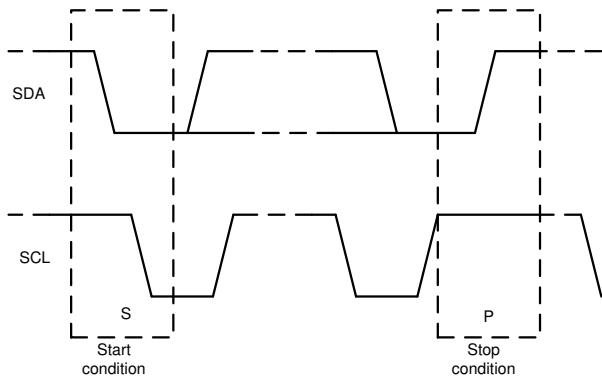

**图 7-18. Acknowledge and Not Acknowledge on the I2C Bus**
Other than specific timing signals, the I2C interface works with serial bytes. At the end of each byte, a ninth clock cycle generates and detects an acknowledge signal. An acknowledge is when the SDA line is pulled low during the high period of the ninth clock cycle. 图 7-18 depicts a not-acknowledge, when the SDA line is left high during the high period of the ninth clock cycle.
2. The controller then generates the SCL pulses, and transmits the 7-bit address and the read/write direction bit (R/W) on the SDA line. During all transmissions, the controller makes sure that data are valid. 图 7-20 shows that a valid data condition requires the SDA line to be stable during the entire high period of the clock pulse. All devices recognize the address sent by the controller and compare the address to the respective internal fixed address. Only the target device with a matching address generates an acknowledge by pulling the SDA line low during the entire high period of the 9th SCL cycle (see also 图 7-18). When the controller detects this acknowledge, the communication link with a target has been established.